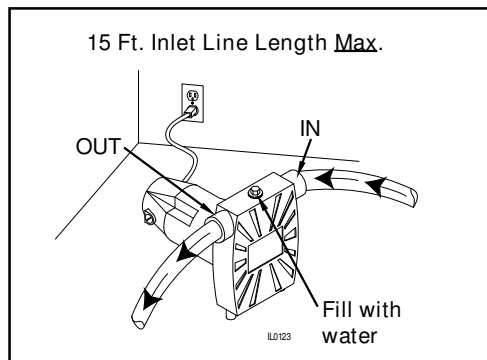

Figure 1
3. Figure 1 shows a typical installation. Threaded adapters are furnished for attaching garden hose where conditions permit its use. In no case should the pump be more than 15 feet above or away from inlet source. Use of foot valve on inlet line is recommended.